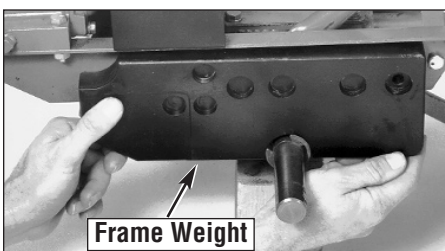

Figure 2
4. Place a frame weight on the frame rail as shown in Figure 2. Align the holes in the frame weight with the front holes in the transmission pan and the frame rail. Also align with the rear hole in the frame rail.